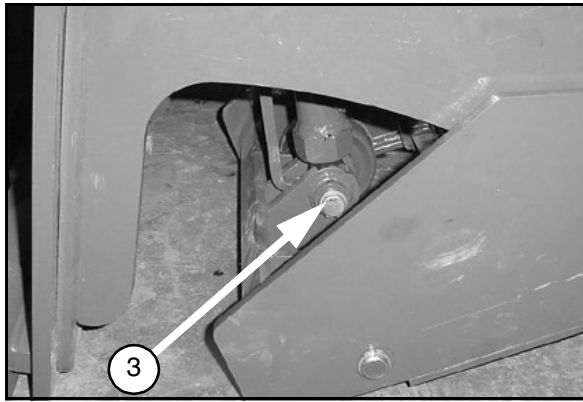

Figure 16.
5. Remove the snap ring from one side of the lower depth jack pin (3) and slide the lower depth jack pin outward until the jack is free as shown in Figure 16. (The pin cannot be removed completely with the rear wheels installed.)